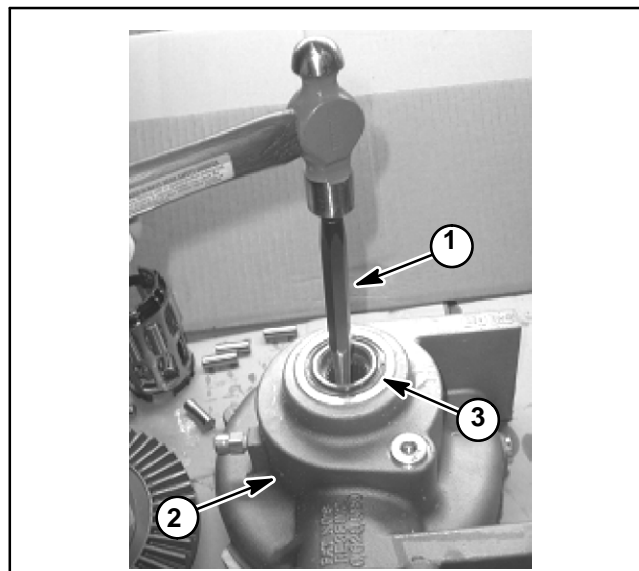

Figure 19
11. Turn the gear case over. Using a hammer and a suitable drift, carefully remove the female output hub and bearing by driving it in toward the center of the gear case (Fig. 19). The bearing has a slight interference fit to the bore of the gear case. Take care to not damage the oil seal in the gear case during hub removal.